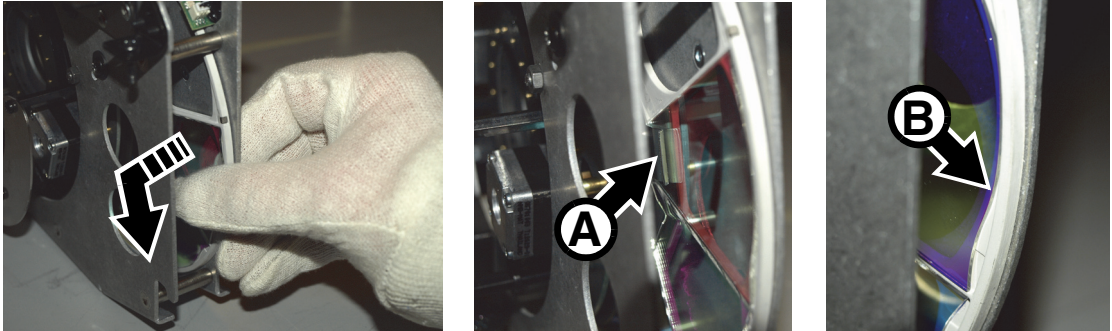

Figure 18: Replacing a color filter
6. The color filters in the IBD module's color wheel are interchangeable. If you need to replace one, see Figure 18. Rotate the color wheel until the filter that you want to change is accessible. Lift the outer edge of the filter up from the color wheel slightly to release it, then pull it out of its retaining spring **A** and out of the color wheel.